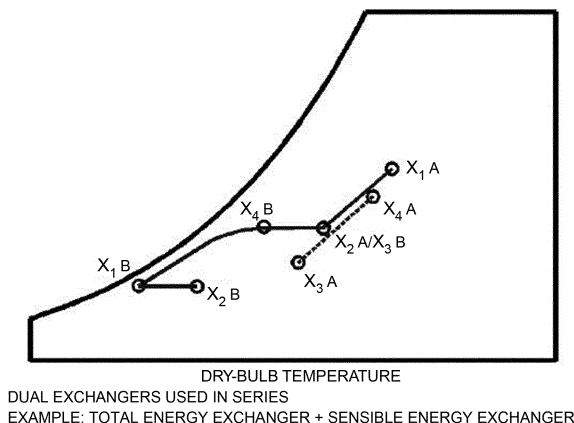

Fig. 13 The Psychrometric Processes of Exchangers in Series Mode
p. 26.12, Fig. 13. The corrected figure is given below.